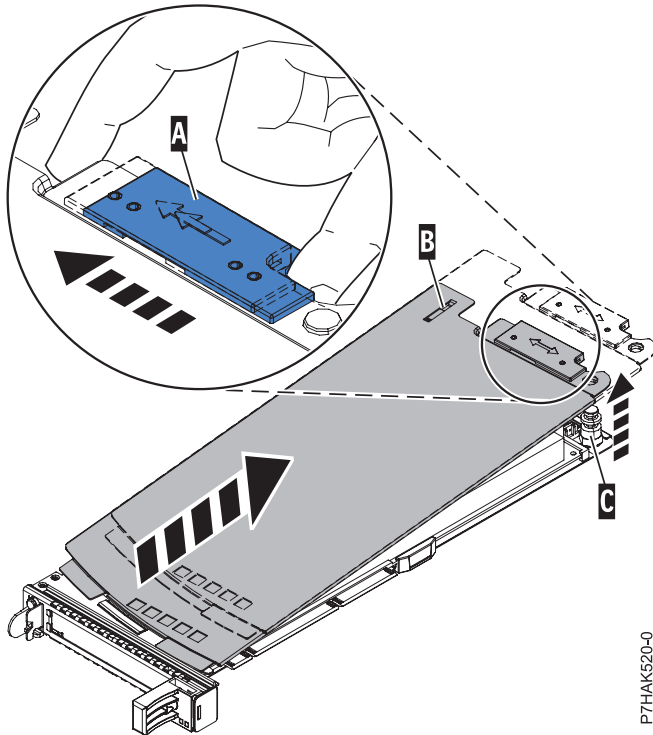

Figure 36. Removing the PCIe adapter cassette cover
- a. Slide the cover latch (A) to disengage it from the pivot pin (C) as shown in Figure 36 on page 33.
- b. Lift the cover (B) off of the pivot pin (C).